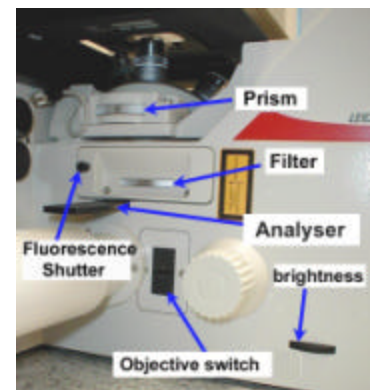
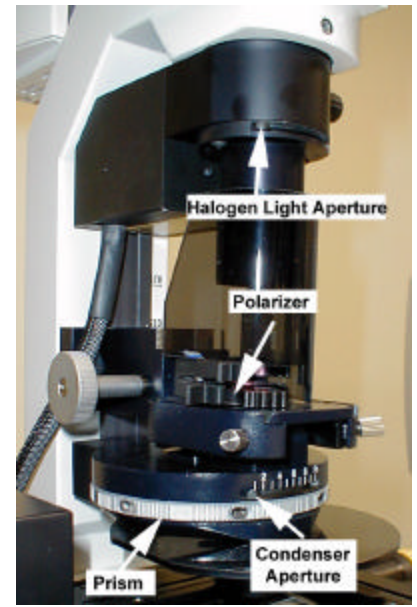

Fig. 4.1 Microscope, lower left
Fig. 4.2 Microscope, top
4.1. Switch the prism on Figure 4.1 to “BF” position.
- 4.2. Insert the analyzer (Fig 4.1) in.
- 4.3. Insert the polarizer (Fig. 4.2)
- 4.4. Switch the prism in Figure 4.2 to a null position (a stop without any number on)
- 4.6. Switch the prism on Figure 4.2 to a position that matches the objective you use.
- 4.6. Switch the prism on Figure 4.1 to “D” position and slightly moving back and forth the prism (as well as the two apertures on Figure 4.2) to get a nice DIC image.
- 4.8. Take the analyzer (Fig 4.1) out and you are ready to scan the DIC image with laser.